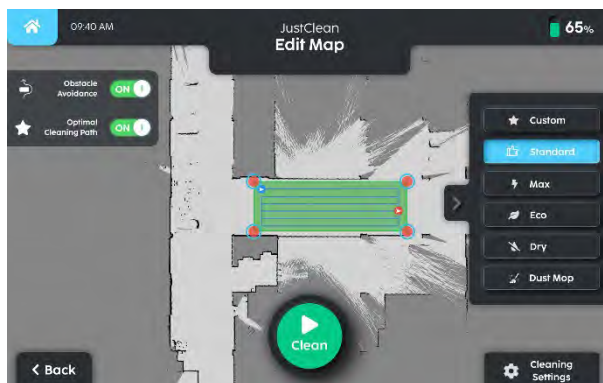

Fig. 13
4. User may adjust cleaning zones or change cleaning Setting for map (Fig 13).